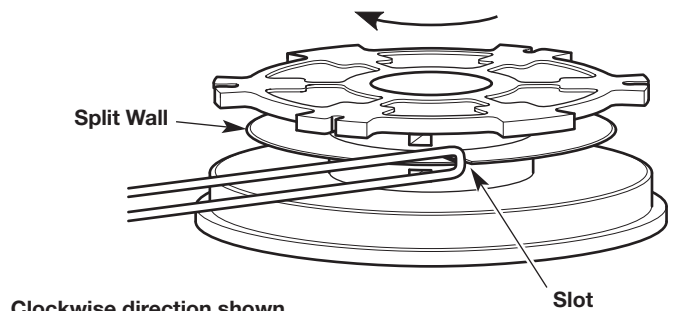

Fig. 20
2. Insert the loop into the slot in the split wall (Fig. 20). Wind the line tightly in the direction shown on the bottom of the inner reel until about 6 inches (150 mm) of line remains.